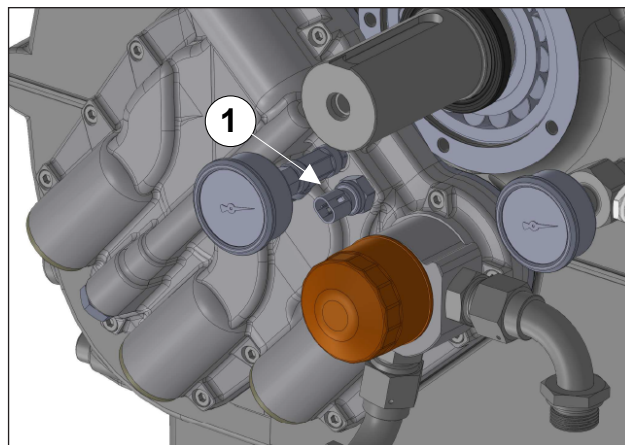

Fig. 135
Fit the oil temperature probe (pos. ①, Fig. 135).